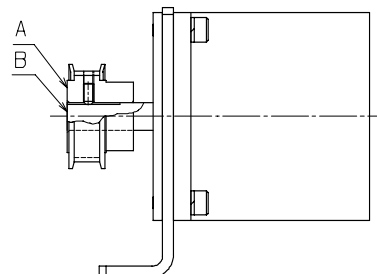

Figure 5-4-1
- 2) Loosen the screw ① of the motor bracket ② to detach the drive belt C from the motor pulley ③.
- 3) Loosen the motor fixing screw ⑤ to detach the motor ④.
- 4) Mount the motor shaft and motor pulley ③ so that the pulley end A is aligned with the motor shaft end B. (See Figure 5-4-1.)